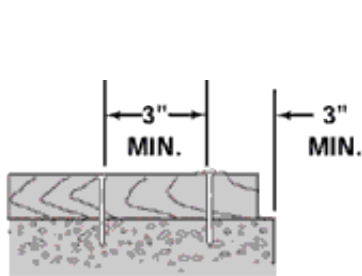
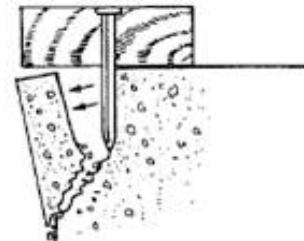

Fig. 4A
Fig. 4C
1. Do NOT Fasten closer than 3" from the edge of concrete/masonry (see Figs. 4A & 4B). If concrete/masonry cracks, the fastener won't hold and there's a chance a piece of concrete/masonry or the fastener could escape in an unsafe way (see Fig. 4C).